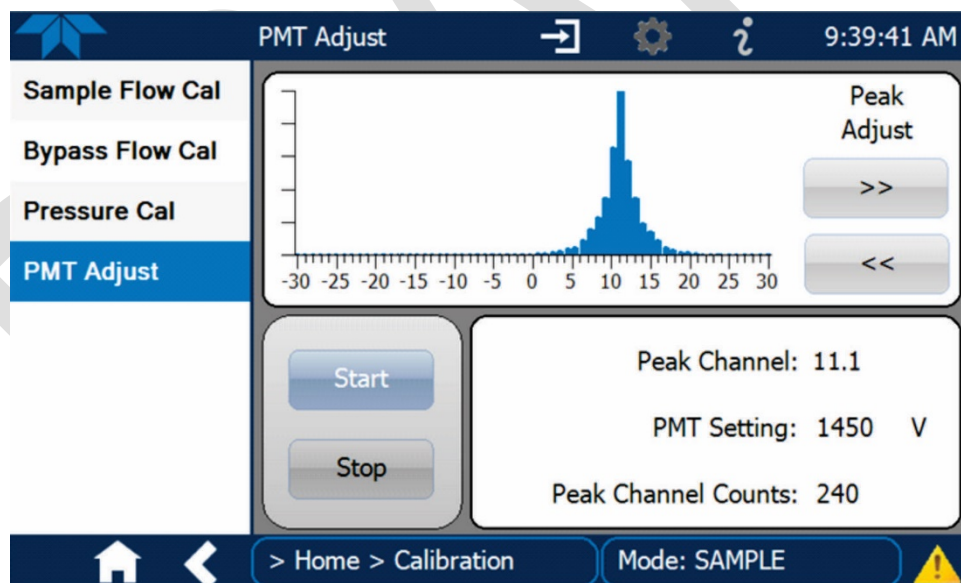

Figure 17. PMT adjust screen
11. If after two tries the Peak Channel reading is not within ± 0.5 of SpanDust™ value stated on bottle, then adjust the PMT Setting by pressing the Peak Adjust left (decrement) or right (increment) buttons to center the Peak voltage (Figure 17). Each press of a button is 1 volt, so press the Peak Adjust button by as many times as the number of volts the reading is off.